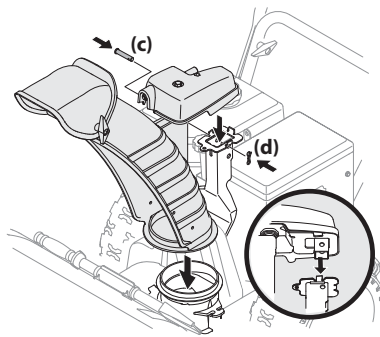

Figure 2-20
2. Place chute assembly onto chute base and secure chute control head to chute support bracket with clevis pin (c) and cotter pin (d) removed in Step 1. See Figure 2-20.